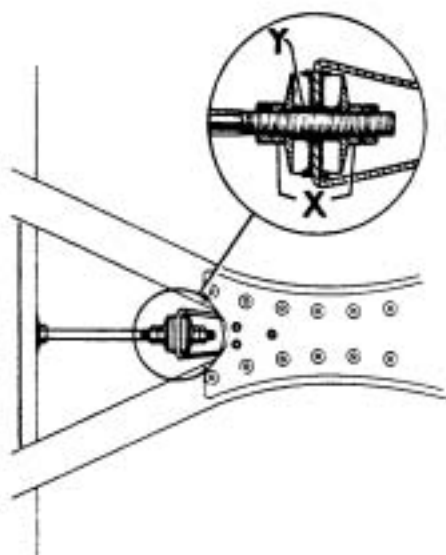

FIG. 2 ADJUSTING THE TIE-ROD LENGTH.
- (vi) To adjust the length of the rod, screw up the adjusting nuts (X Fig.2) finger tight and then tighten them an equal amount until the distance piece Y is clamped. Tighten the locknuts. The adjustment should impose no fore and aft deflection on the gearbox rear rubber mounting block.